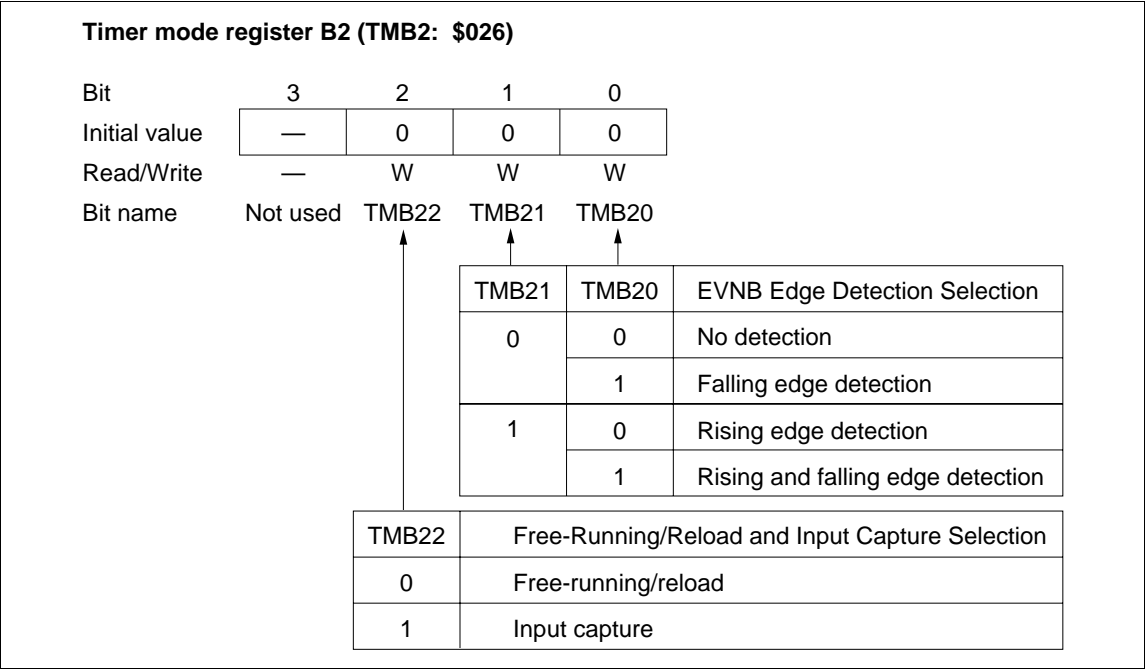

Figure 34 Timer Mode Register B2 (TMB2)
- Timer mode register B2 (TMB2: \$026): Three-bit write-only register that selects the detection edge of signals input to pin EVNB and input capture operation as shown in figure 34. It is reset to \$0 by MCU reset.